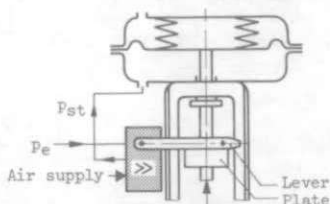
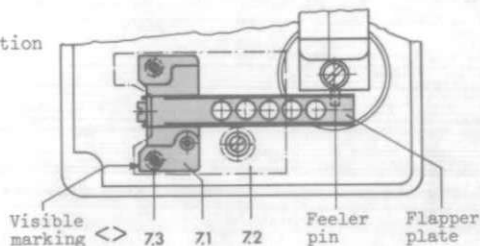

Figure 7: "Spring closing" actuator attached on the left, operating direction >>
Figure 11: Reversal of the nozzle block
The air connections are designed in the form of hose with NPT 1/4" thread. The normal types of screw connections for metal and copper pipes or for plastic hoses can be used. Before connection of the air-lines, blow through these well. The output pressure is conveyed to the upper or underside of the actuator in accordance with figures 7 to 10.
The position of attachment is dependent on the type of actuator, of input signal and of the operating direction. The mounting of the positioner has to be arranged according to Fig. 7 to 10.
4.1.1 Determination and reversion of the operating direction (figures 7 to 10 and figure 11)
If the desired operating direction (figures 7 to 10) does not agree with the visible marking or if the operating direction is to be altered, proceed as follows: unscrew both screws (7.3) of the covering plate whilst holding the nozzle block. Remove the cover plate.
Once again place the nozzle block (7.1) in position shifted by 180° and secure this. It is absolutely necessary to ensure the correct position of the nozzle block with the flapper plate to the feeler pin of the coupling (5) as shown in figure 11. If, after laying down coordination, the operating direction is to be reversed, the positioner must be screwed onto the other side of the valve. Ensure correct positioning of lever (1) and plate (20) (figures 7 to 10).
If two devices are to be attached, first of all the place of attachment of the positioner must be laid down in accordance with figures 7 to 10.